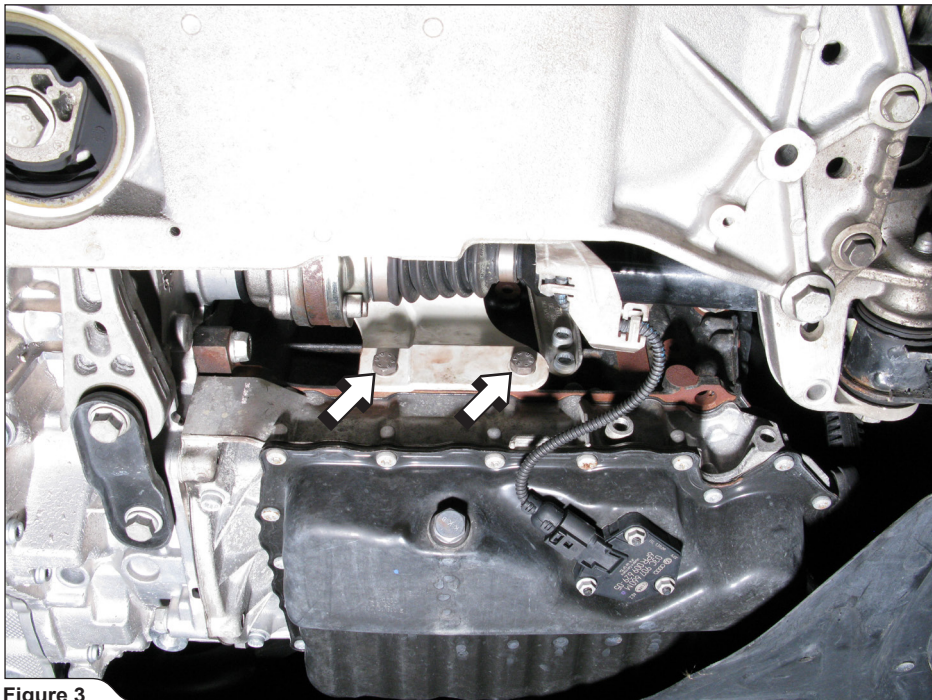

Figure 3
3. Unscrew the marked bolts and remove the output shaft's shield (**Figure 3**).